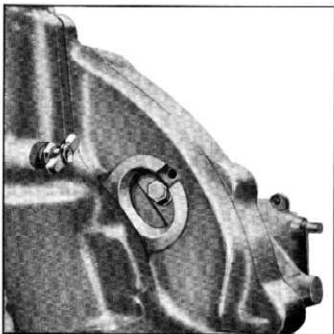
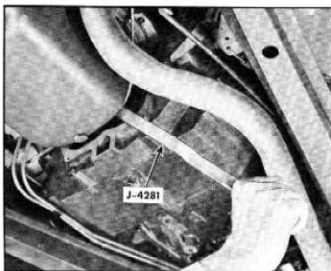

Fig. 62—Bolt Access Hole in Bell Housing
Fig. 61—Engine Indexing Tool
19. Using tool J-4281 to turn engine over (fig. 61) remove six flywheel to converter bolts working through opening in housing on left side of engine (fig. 62).